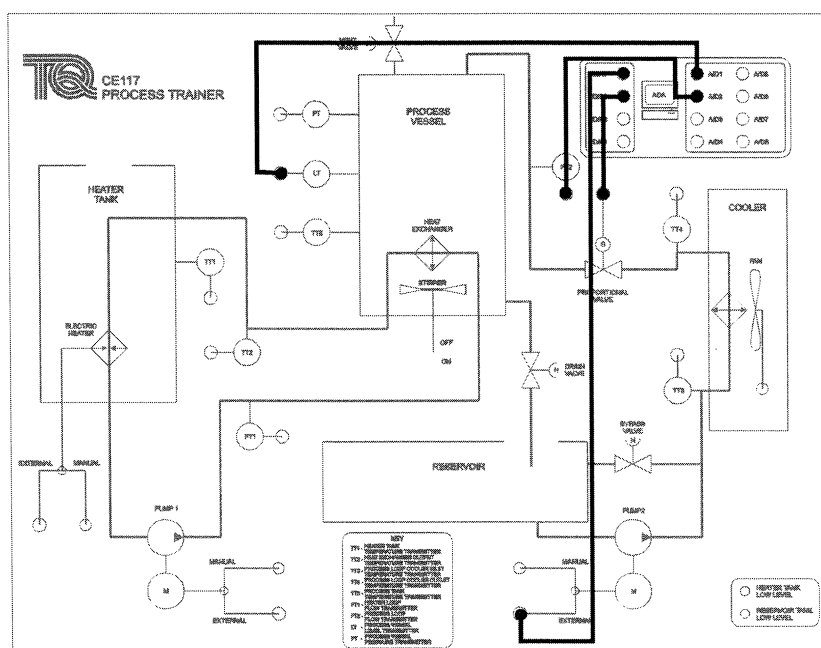

Figure 60 Connections for Experiment 4 Procedure 1
- 3) Connect the CE117 Mimic Panel as shown in Figure 60. Set Pump 2 switch to 'External'. Analogue signals will pass from the ADA section to Pump 2, the proportional valve S and from level transmitter LT.